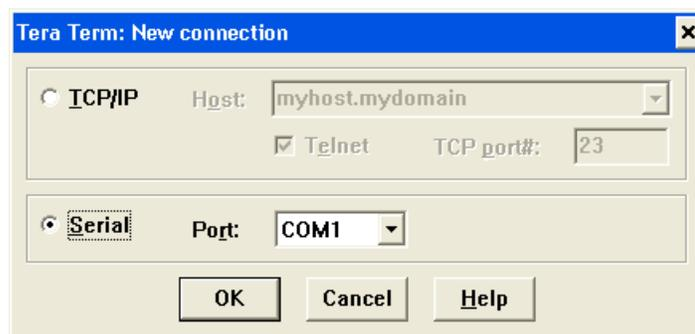

Figure 8: Tera Term New Connection Window
2. The Tera Term: New connection window is displayed (Figure 8). Select Serial radio button.